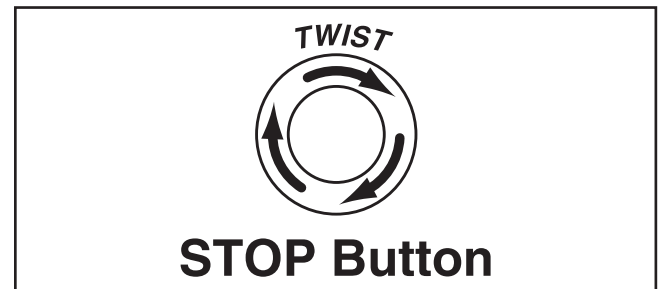

Figure 22. Resetting the switch.
4. Push the EMERGENCY STOP button in, then twist it clockwise (see **Figure 22**) so it pops out. When the EMERGENCY STOP button pops out, the switch is reset and ready for operation.